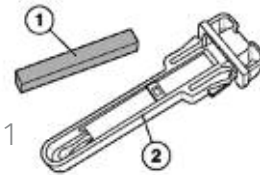
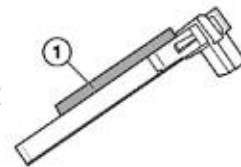

Figure 1
Figure 2
3. Affix a strip of self-adhesive foam, P/N 64 11 9 142 491, to the side of the sensor. Make sure the surface of the sensor (Figure 1, Number 2) is clean. Place the foam strip on the side of the sensor, between the plastic ribs opposite electrical connector as shown in Figure 2.